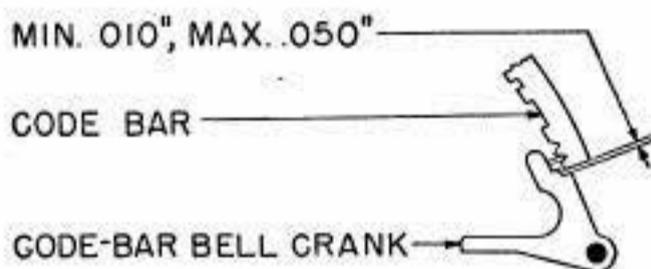

Fig. 11
- (b) There should be a clearance as indicated in Fig. 11 between the right ends of the codebars and the adjacent edges of the associated codebar bellcranks when the codebars are positioned for BLANK selection and with the locking lever resting against the codebars. **Fig. 11**